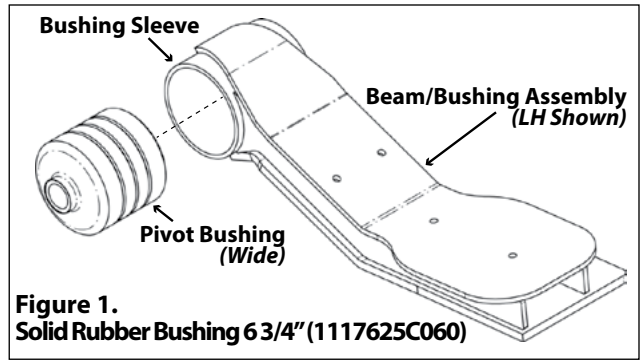

Figure 1. Solid Rubber Bushing 6 3/4" (1117625C060)
1. Remove bushing from load beam. (Figure 1). **NOTE:** Apply heat to the outside of the beam eye with oxy-acetylene torch to destroy remaining bonding element.